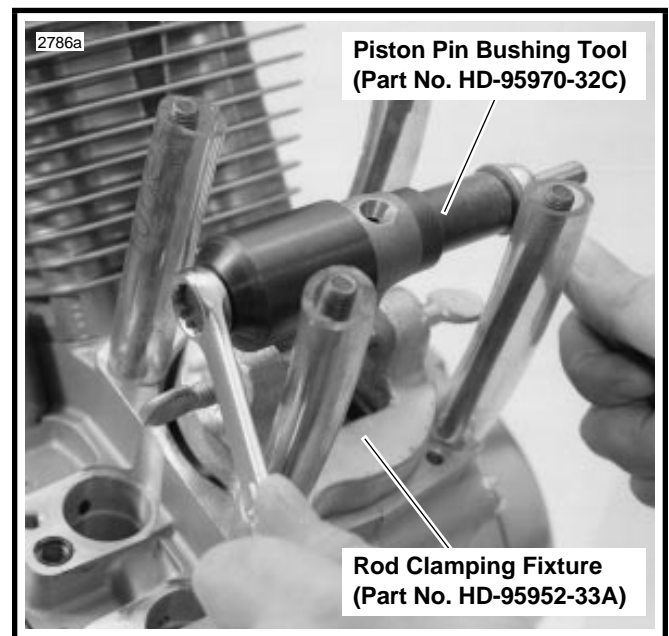

Figure 3-37. Installing New Piston Pin Bushing
1. See Figure 3-37. Install plastic hoses over studs.
7. See Figure 3-37. Attach PISTON PIN BUSHING TOOL \(Part No. HD-95970-32C\) to connecting rod; place **new** bushing between connecting rod and driver.